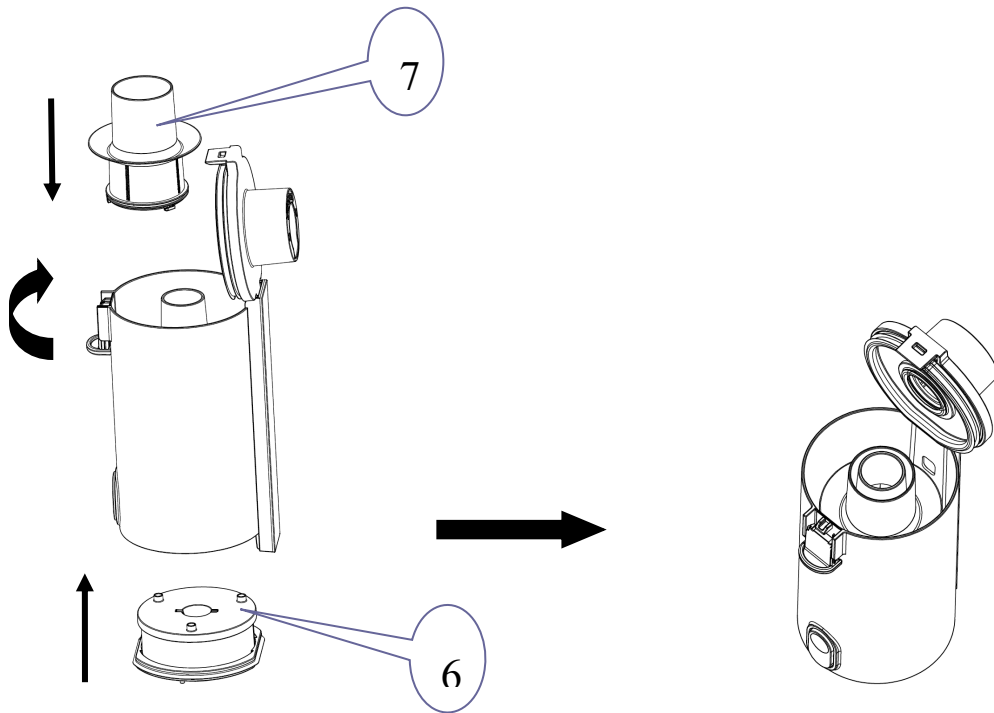
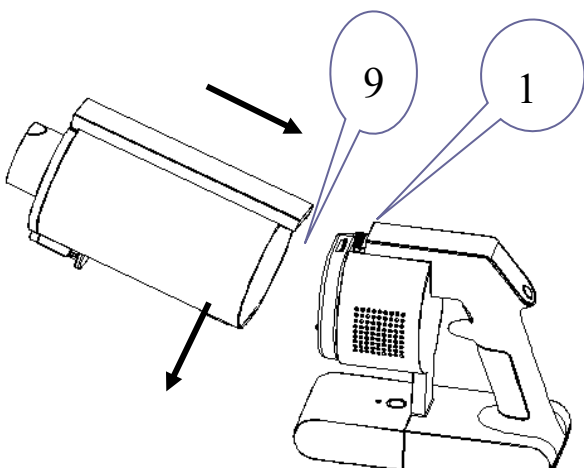

Figure 6-9
Figure 6-10
6.4 Slide the filter screen (NO.7) back onto dust cup and rotate it clockwise to fix. Refit the HEPA filter (NO.6) back onto filter screen (Pay attention to the position arrow of NO.6 and NO.7). See Figure 6-9. Engage the hook (NO.9) into the hole (NO.10), then slide the dust cup into the main unit. See Figure 6-10.